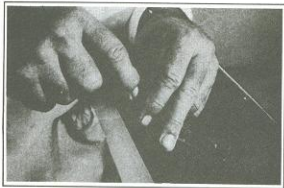

Figure 2-77. Trimming Patch
5. When the patch feels rubbery to touch (10-15 minutes), trim the patch flush with the surface, and then allow to cure completely (30-60 minutes). Patch will shrink slightly as it cures, making a depression. See Figure 2-77.